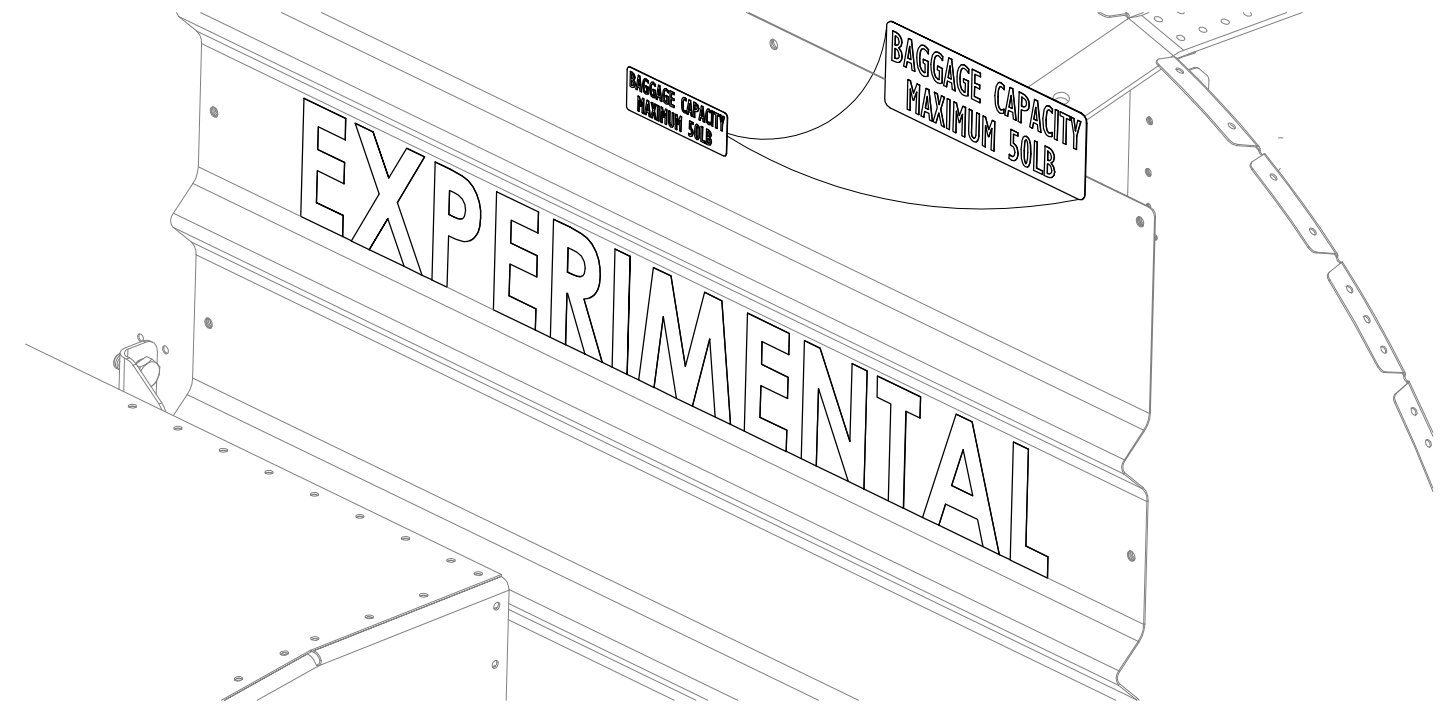

FIGURE 2: BAGGAGE BULKHEAD CORRUGATION LABELS
Step 3: Install the F-1200 Interior Label Sheet baggage capacity label and the PLA EXPERIMENTAL 2" decal on the F-1207 Baggage Bulkhead Corrugation as shown in Figure 2.